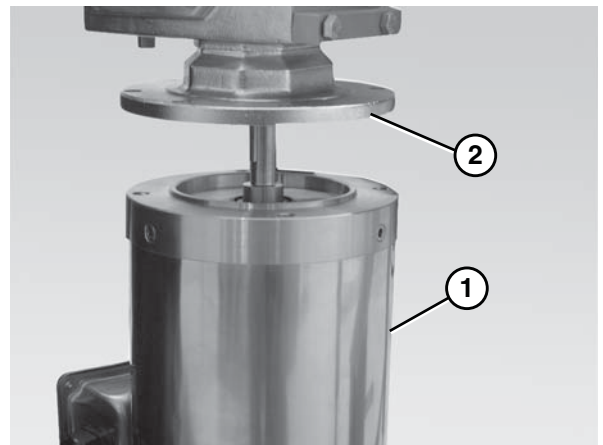

Figure 24
2. Disconnect the motor (Figure 24, item 1) from the gear reducer (Figure 24, item 2) and set the motor aside.